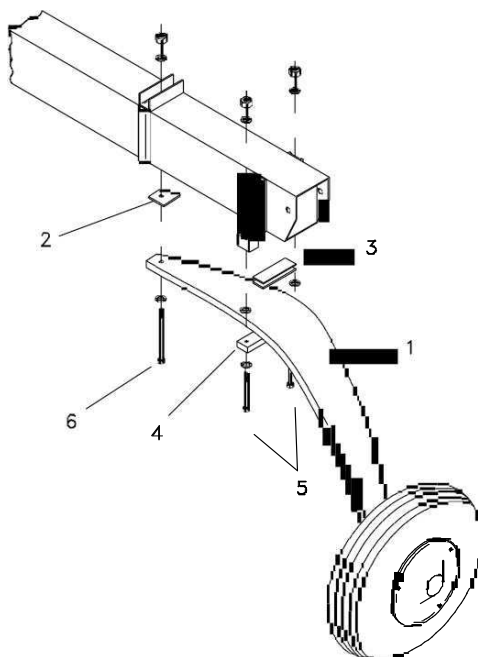

Figure 4-12 Main landing gear
The main landing gear (see fig. 4-12) consists of two special steel spring-leaf struts (1) positioned crossways to fuselage for elastic cushioning of landing loads.
Loosen bolts (part.5 fig. 4-12) of the aluminum clamp (part 4 fig. 4-12) that secure spring-leaf to edge of main girder
Remove bolt connection between inboard end of spring-leaf (part.6 fig. 4-12) and main girder